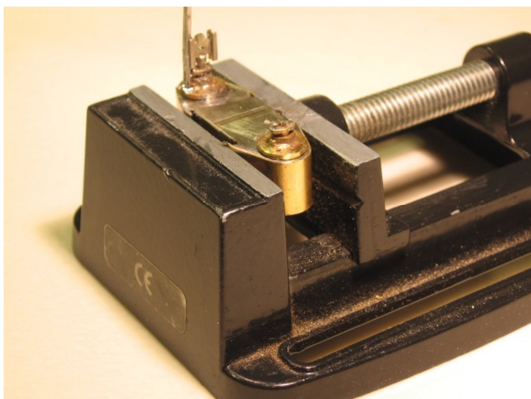

Fig. 31
53. Fold up, solder and then fit the outer wrapper (39), the two holes in the wrapper are for drain cocks, so go to the bottom of the assembly, the full thickness areas are the flats, and go on the inside of the piece.
63. sweat the bars in position using the crosshead as a guide. Fig 31 - 34 **Fig 31-33 and 35**